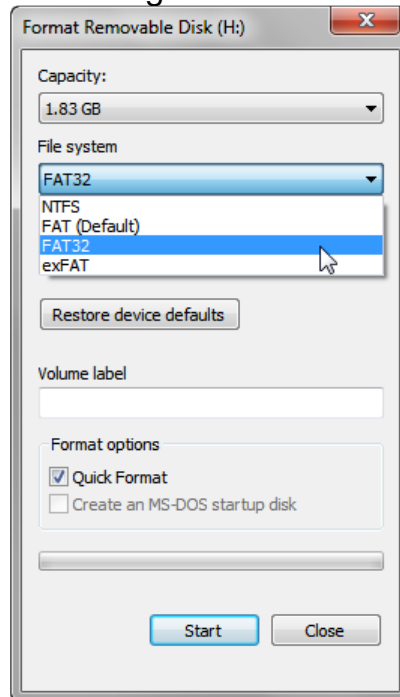

Figure 9.
1. Insert your SD card into SD card reader of your computer to format your SD card for FAT16 or FAT32 file system as figure 9.